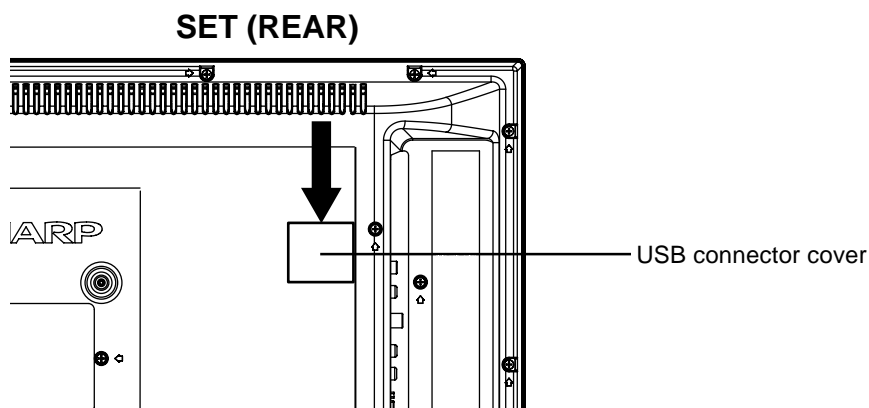

Fig.1
3. Set the minus driver to the topside of the USB connector cover, remove the USB connector cover. Insert the USB Flash Memory to USB connector. (Refer to Fig.1)